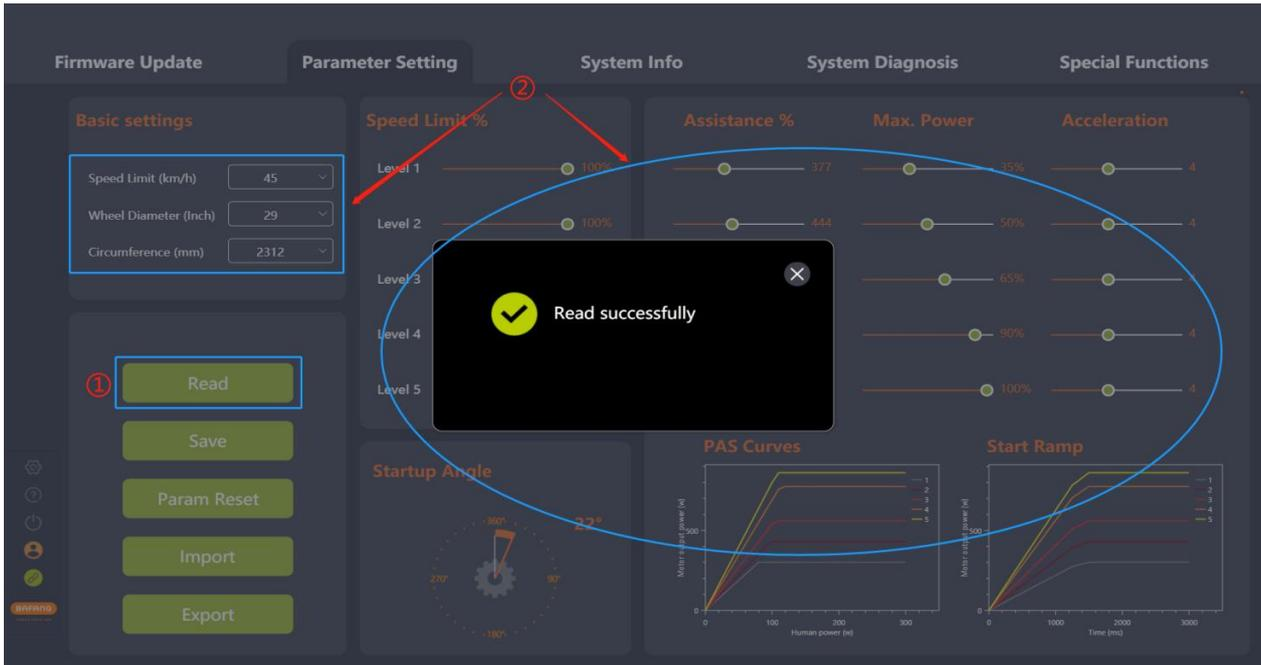

Fig. 5-12 Read
- (1) Check whether the BESST Tool is well connected to the controller, and ensure that the controller is well powered. Click "Read".
(2) After reading successfully, each parameter is displayed as a number, slider etc. (Fig.5-12).